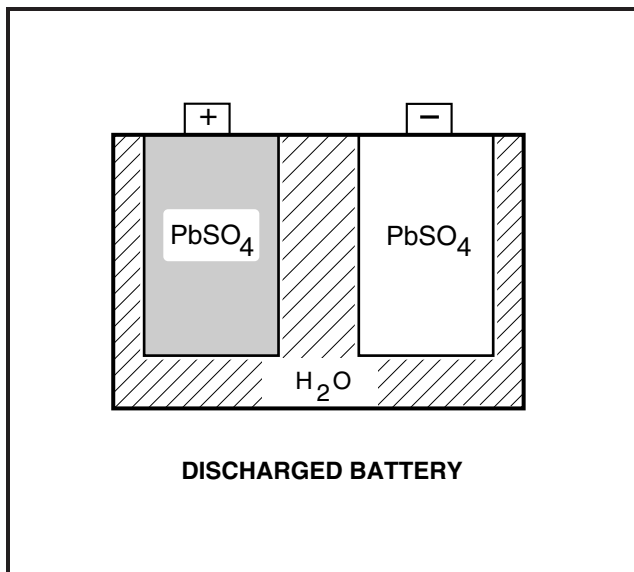

FIGURE 18-3
The (SO4) combines with the lead (Pb) on both plates, forming lead sulphate (PbSO4). The oxygen (O2) from the positive plates combines with the hydrogen (H) from the electrolyte to form water (H2O) (**Figure 18-3**).